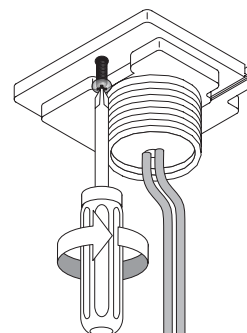

Fig.5
13. Install the Quick Cable Connector with 1 screw. (Fig. 5)